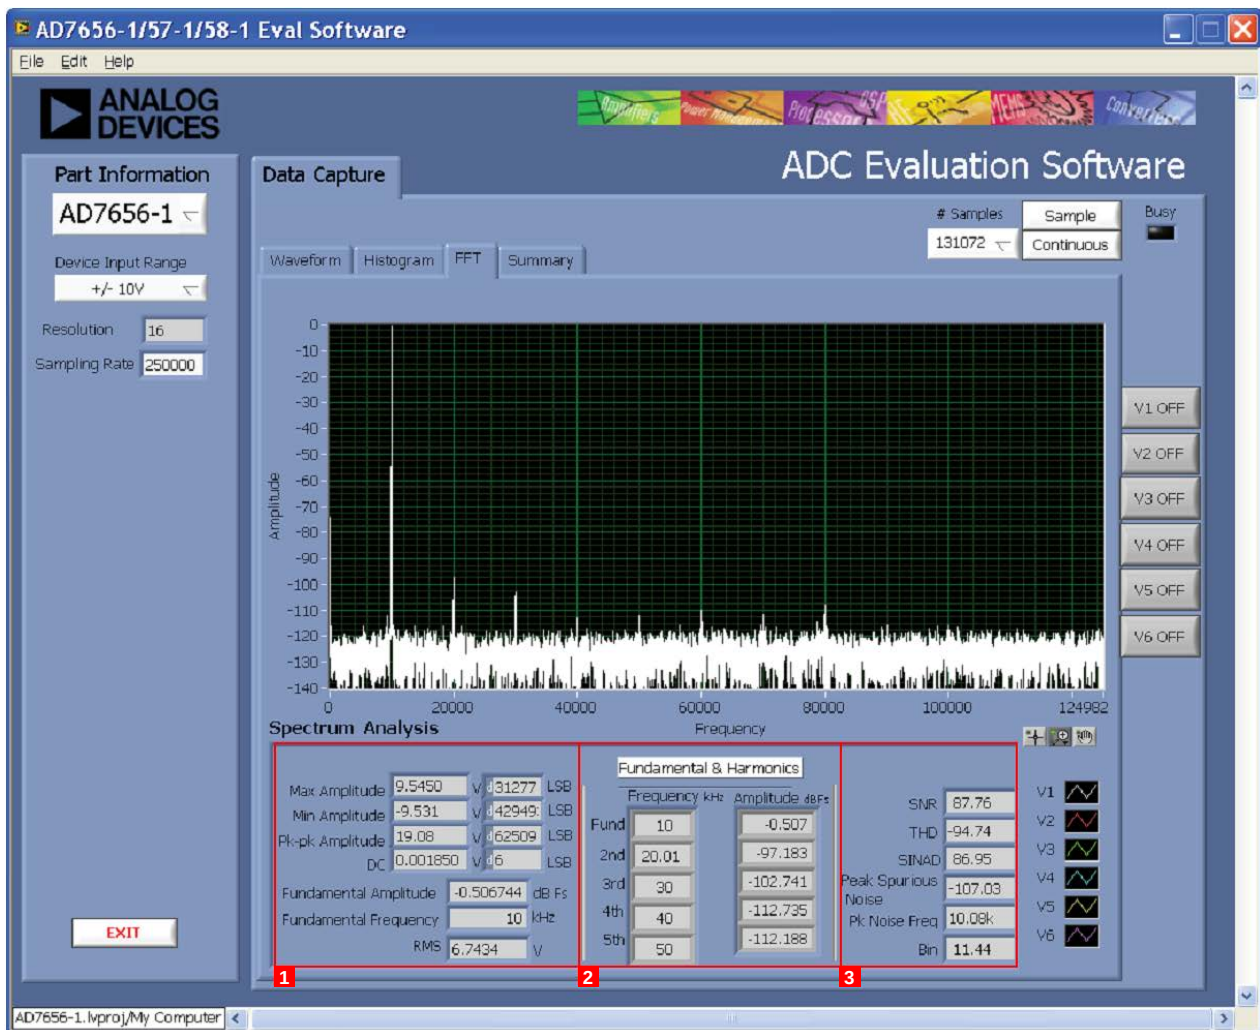

Figure 20. FFT Tab
Figure 20 shows the **FFT** tab. This feature tests the traditional ac characteristics of the converter and displays a fast Fourier transform (FFT) of the results.
- The area labeled 1 in Figure 20 shows the input signal information.
- The area labeled 2 in Figure 20 displays the fundamental frequency and amplitude in addition to the second to fifth harmonics.
- The area labeled 3 in Figure 20 displays the performance data, including the SNR, THD, and SINAD.